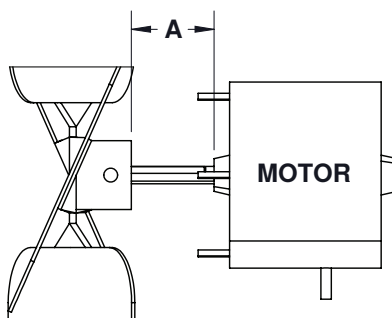

Figure 5. Fan and Motor Spacing (Refer to Table 7)
6. Ensure that fan is in proper position on shaft (see Figure 5) and setscrew is tightened in accordance with torque listed in Table 7.
*See Figure 5 .
*See Figure 5.